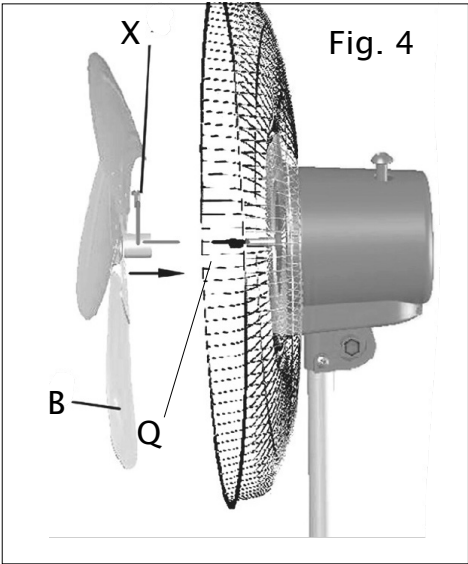
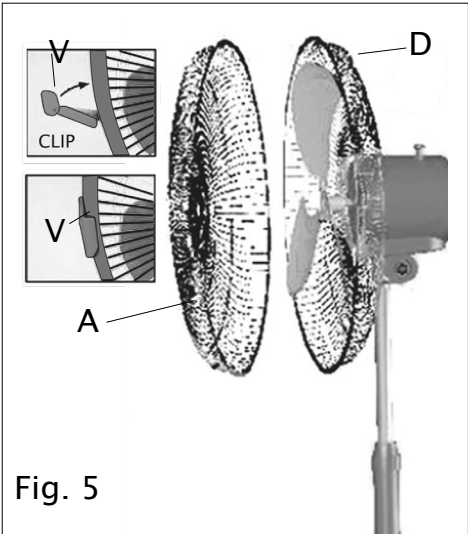
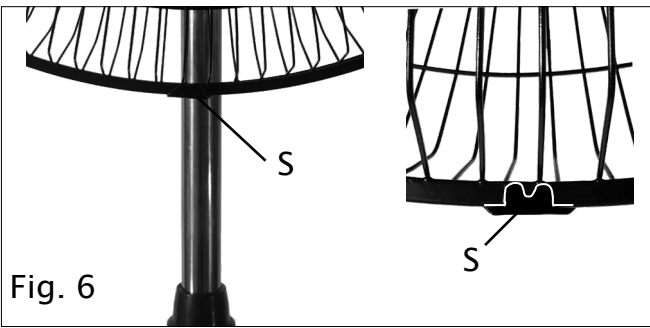

Fig. 4
Fig. 5
Fig. 6
1- Insert the base tube (K) into the hole in the base (M). Align the reference holes, insert the 4 screws (N), position the nuts (N), and tighten securely (fig.1) .Unscrew the ring nut (J) from the base tube (K) and insert the base screw cover (R). Position it correctly and screw the ring nut (J) back onto the base tube (K), after having positioned the extension tube (I) at the desired height (Fig. 2). 2- At the top of the extension tube (I), position the motor body (E), securing it with the reference screw (L) (Fig. 2). 3- Unscrew the 4 screws (C) located on the motor body (E) (Fig. 2). Position the rear grille (D), ensuring that the grille support (S) is facing downwards (Fig. 6). Then, tighten the 4 screws (C) back into place. 4- Secure the fan (B) to the motor shaft (Q) with the screw (X). Caution: The screw (X) must be tightened into the flat seat on the motor shaft (Q) and facing the inside of the appliance. (Fig. 4, 4A, 4B) 5- Position the front grille (A) on the rear grille (C), ensuring the grille support is correctly positioned (Fig. 6), and secure with the grille retaining clips (V) (Fig.5).